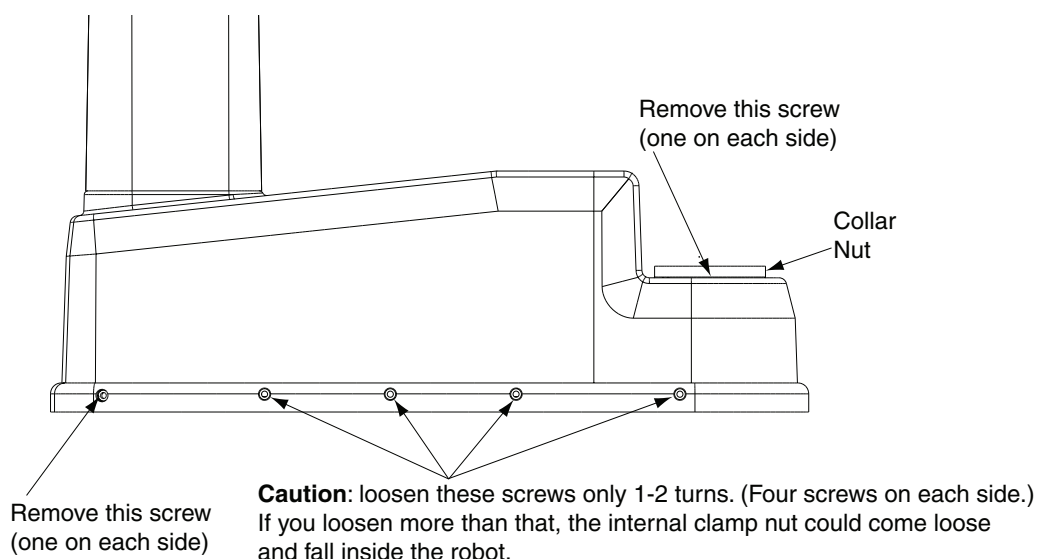

Figure 10-8. Cover Removal Instructions
3. Unscrew the collar nut on the top of the outer link. See Figure 10-8.
6. For the 8 screws along the side of the cover (4 on each side; see Figure 10-8), loosen only 1 to 2 turns, just enough to loosen the inside clamp nuts. You do not want to completely remove the screws. See the label on the side of the outer link cover.